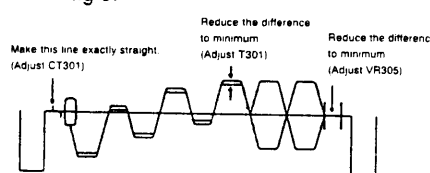

Fig 9.
- Adjust CT301 to obtain the waveform as in fig 9.
- Adjust VR305 to obtain the waveform as in fig 9.
- Adjust T301 to obtain the waveform as in fig 9.